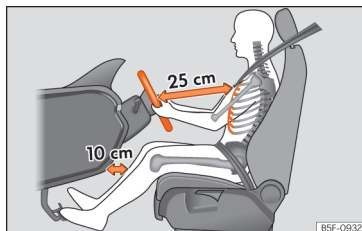
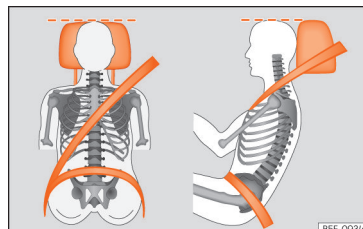

Fig. 86 The correct distance between the driver and the steering wheel must be at least 25 cm (10 inches).
Fig. 87 Correct belt web and head restraint positions
- Adjust the head restraint so that its upper edge is at the same level as the top of your head, or as close as possible to the same level as the top of your head and under no circumstances below eye level. Keep the back of your neck as close as possible to the head restraint »» Fig. 86 and »» Fig. 87.
- Move the steering wheel so it is at least 25 cm (10 inches) away from the sternum »» Fig. 86 and you can hold it with both hands on both sides, on the outer part, with your arms slightly bent.
- Move the seat in such a way that you can step on the pedals with your knees slightly bent and with a distance between the knees and the dashboard of at least 10 cm (4 inches) »» Fig. 86.